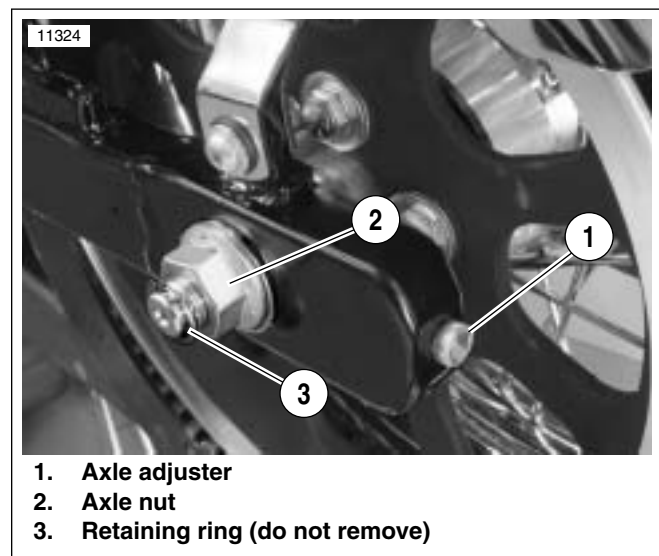

Figure 3. Axle Adjusters
7. See Figure 3. Loosen rear axle nut (2). Do not remove rear axle retaining ring (3). Loosen both axle adjusters (1) about three turns to release tension on drive belt.